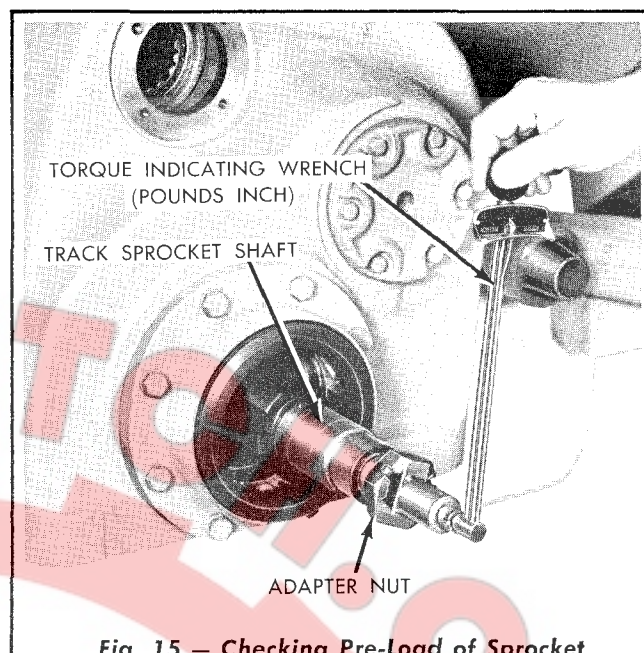

Fig. 15 — Checking Pre-Load of Sprocket Shaft Bearings
3. Procure an extra sprocket shaft outboard bearing retaining nut and weld a small plate and a high nut to the outer face of the bearing retaining nut, so that a torque indicating wrench may be used to check the bearing pre-load as shown in Fig. 15. The sprocket shaft bearings (inner and intermediate) are correctly adjusted when they have 10 to 20 pounds inch pre-load, or when they are adjusted .002" to .003" tight. Add or remove bearing adjustment shims to obtain the proper pre-load. **NOTE:** *If a torque wrench and an adaptor nut are not available, add or remove bearing adjustment shims until a very slight pre-load (start of pre-load) is noted when turning the shaft by hand, then substitute the combination of shims to reduce the total shim pack thickness .002" to .003" to obtain the proper pre-load.*